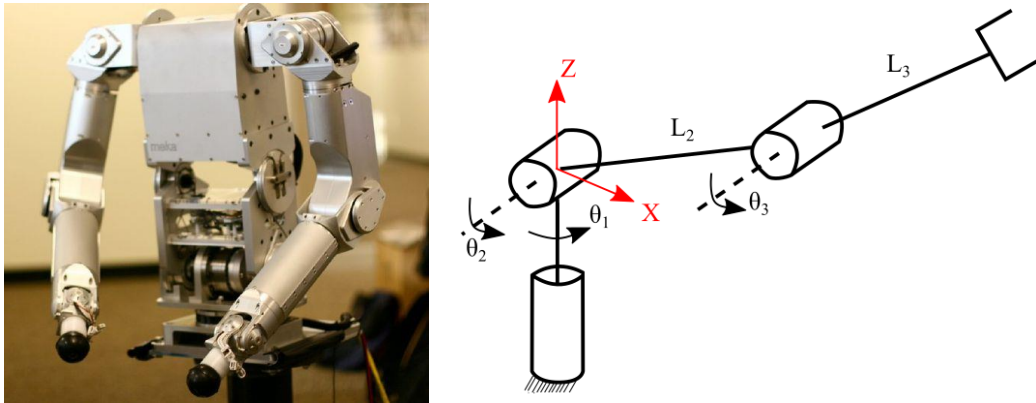

Fig1. Kinematic Structure of simple anthropomorphic arm
**Case study 1:** Consider the simple anthropomorphic arm in Fig.1. Several practical uses of this arm can be seen in 1 and 2.